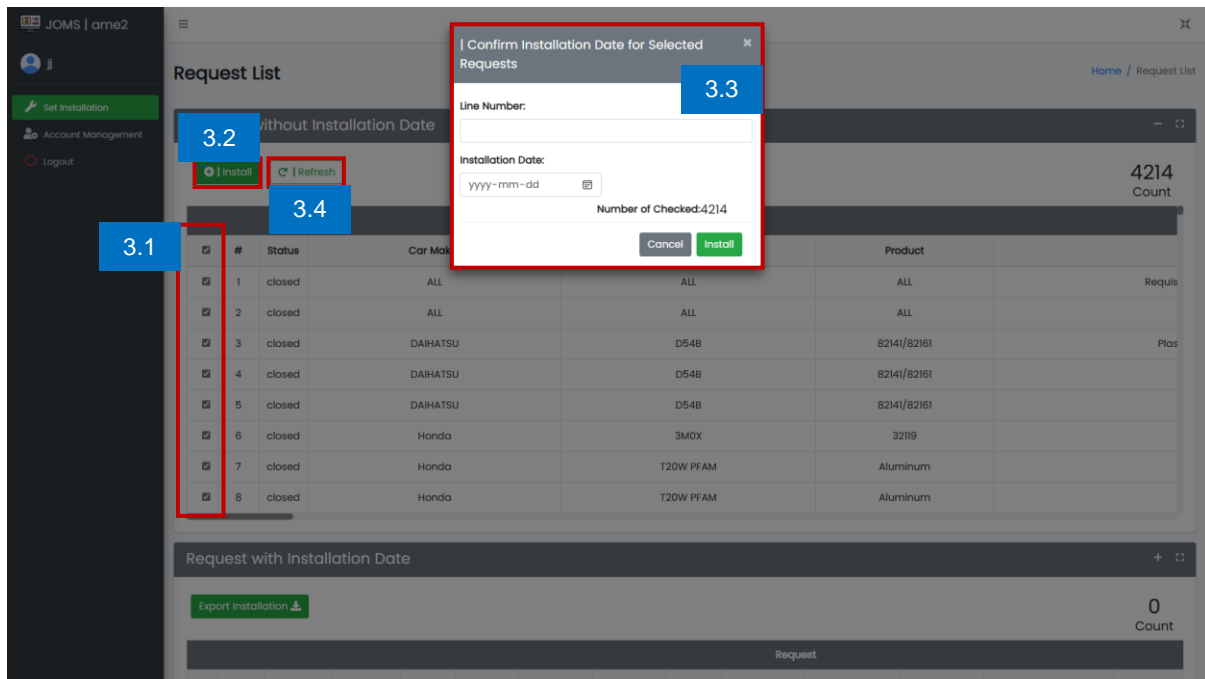

Figure 25. Selected Request Installation Date Setting
3.1 For date installation, select the checkbox of the item that needs to be installed. (See Figure 25)
3.2 Click the Install + to pop up the Installation Date for Selected Request. (See Figure 25)
- 3.3. Provide the line and select the installation date, then click the confirm button. (See Figure 25)
- 3.4 Click the refresh button to reload the content of requested date installation. (See Figure 25)